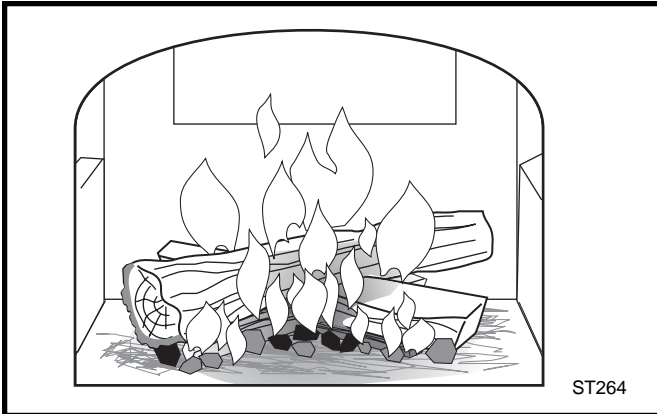

Fig. 28 Add larger pieces of wood as the fire begins to burn well.
4. **If your Defiant has been broken-in previously** using Steps 1-3, continue to build the fire gradually. Add larger wood with a diameter of 3-4" (75-100 mm). Continue adding split logs of this size to the briskly-burning fire until there is a glowing ember bed at least 3" (75 mm) deep. (Fig. 28) A good ember bed is necessary for proper functioning of the catalytic system and may take an hour or more to establish.